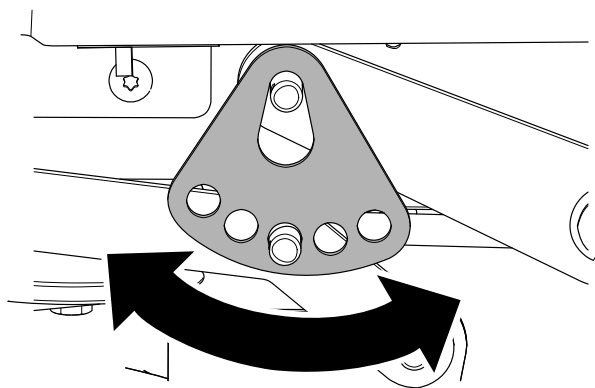

Figure 64
7. Rotate the height-of-cut plate to a different hole so that it supports the weight of the mower deck after you install the plate (Figure 64).
8. Install the washer and hairpin cotter (Figure 64).